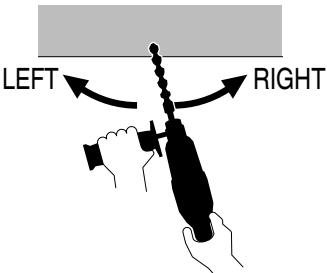

Fig. 40
2. The level LED on the tool side lights up or blinks in the color shown below when the level LED switch is pressed. (**Fig. 40**)
- The LED level function detects tilt for surfaces (such as walls) that are perpendicular with respect to gravity (Fig. 40 UP, DOWN), but it cannot detect horizontal tilting with respect to the surfaces (Fig. 40 RIGHT, LEFT).